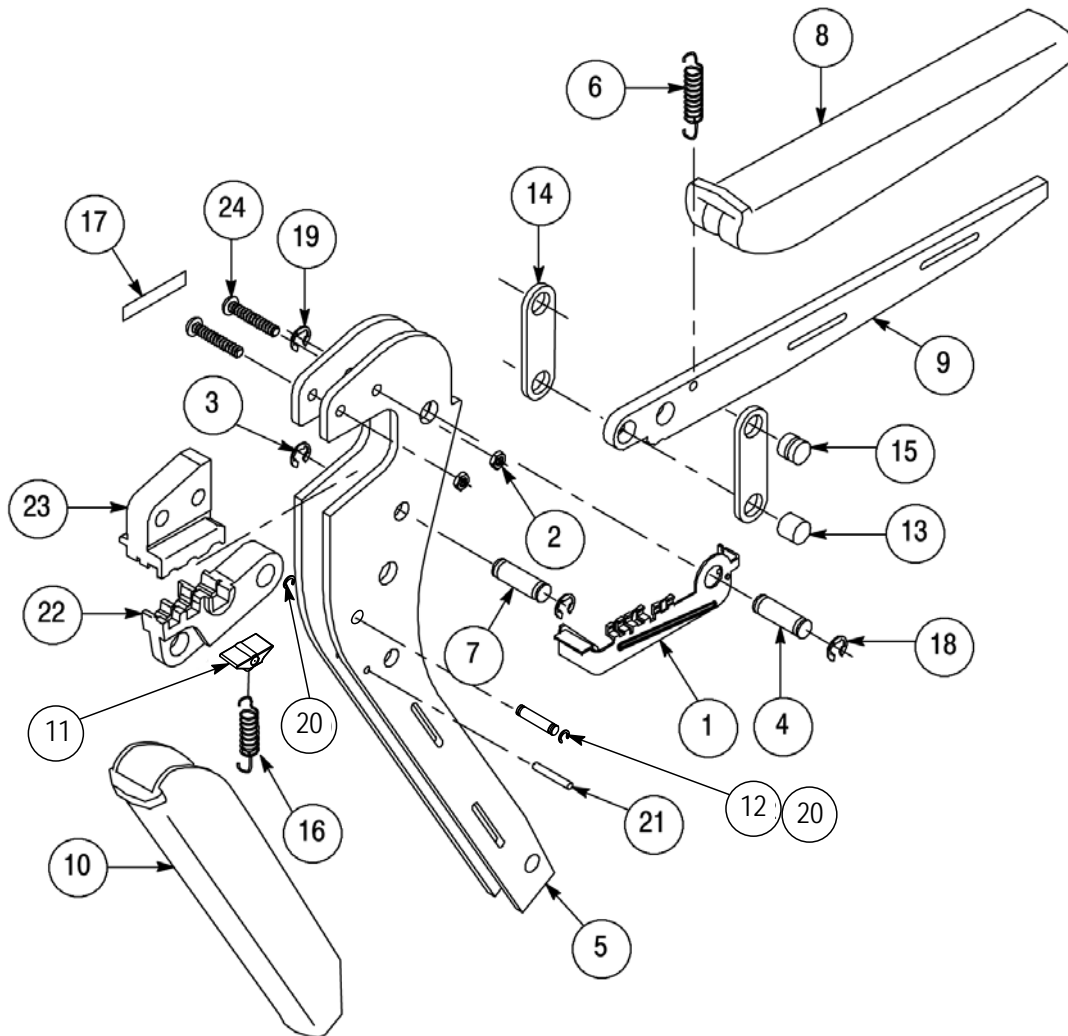

Figure 6 (Cont'd)
Customer-replaceable parts are listed in Figure 6. A complete inventory should be stocked and controlled to prevent lost time when replacement of parts is necessary. Parts other than those listed should be
- Updated table in Figure 6